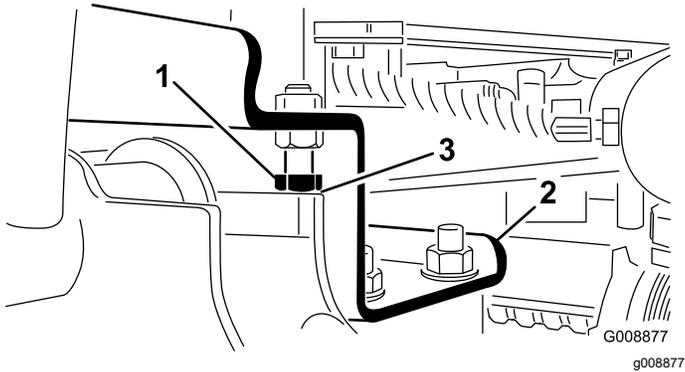

**Figure 11**
1. Start the engine, raise the cutting units, and check to ensure that the clearance between each lift arm and the floor plate bracket is 5 to 8 mm (0.18 to 0.32 inches) (Figure 11).